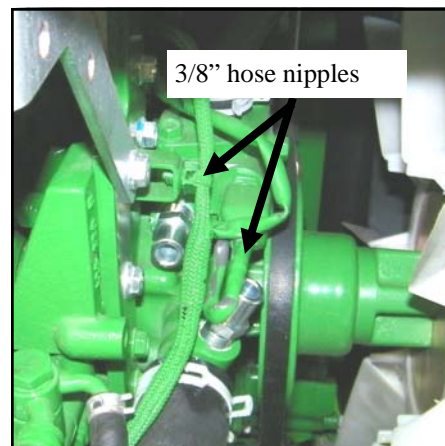

Fig. 1.2
1.2 Per figure 1.2, remove the 2 Allen plugs from the water pump area and install the two 3/8" NPT nipples provided with Teflon tape.